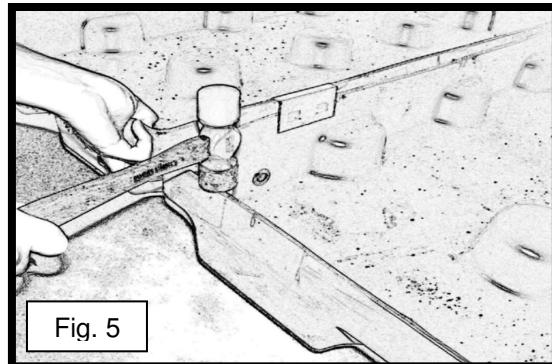

Fig. 5
- 1) While lifting one accumulation center slightly off the ground, gently tap on the top edge of the other attached accumulation center (see fig. 5).